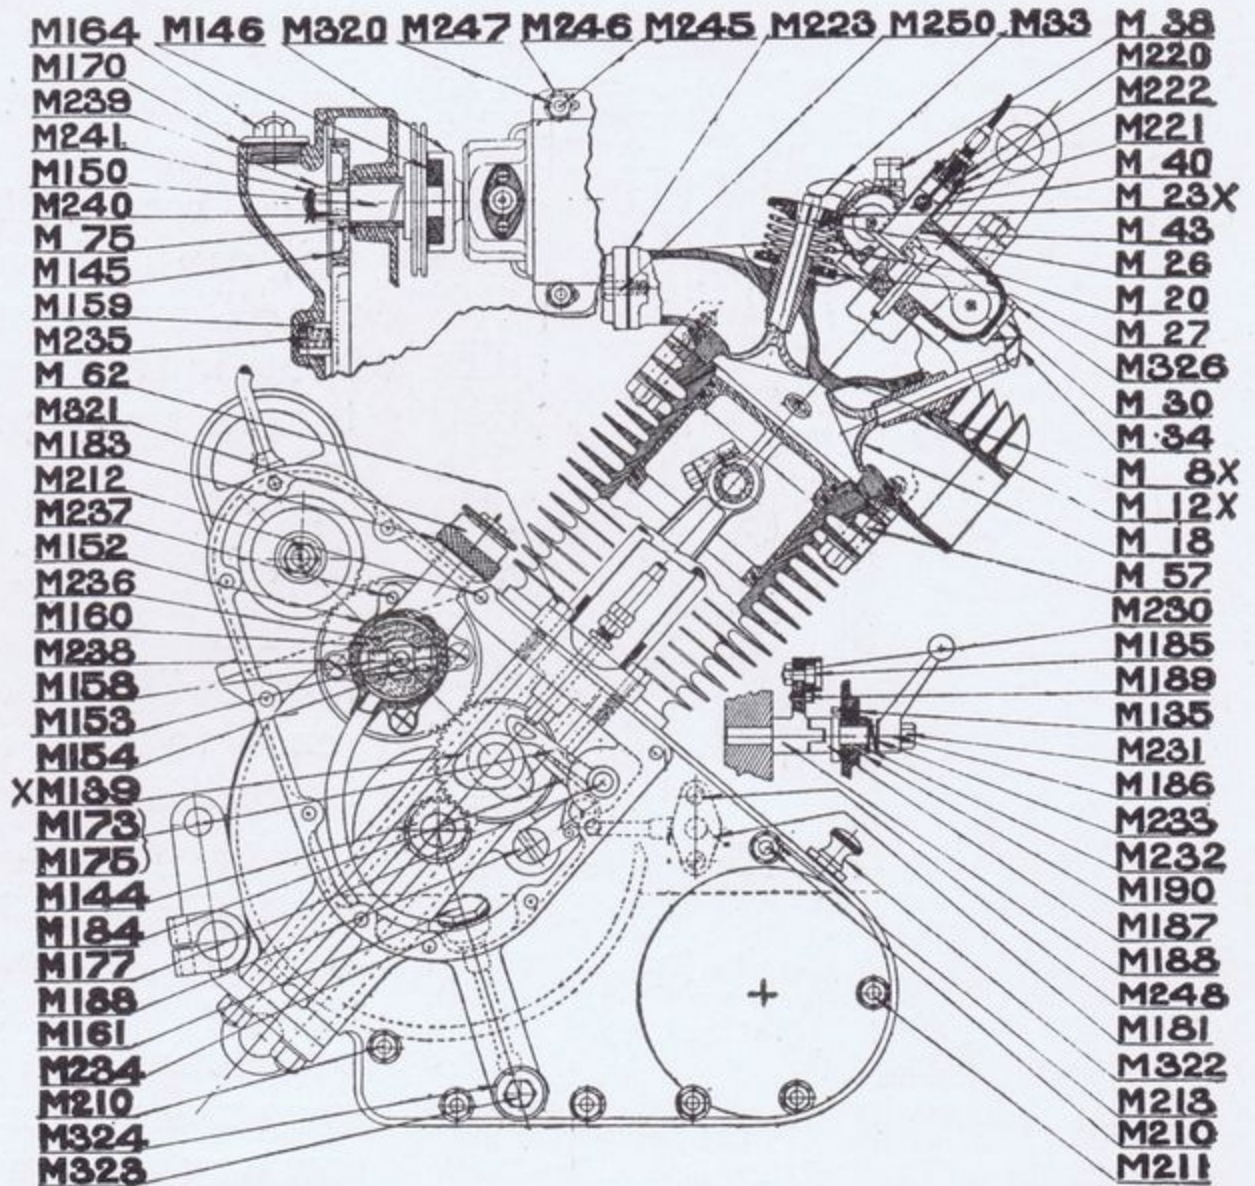
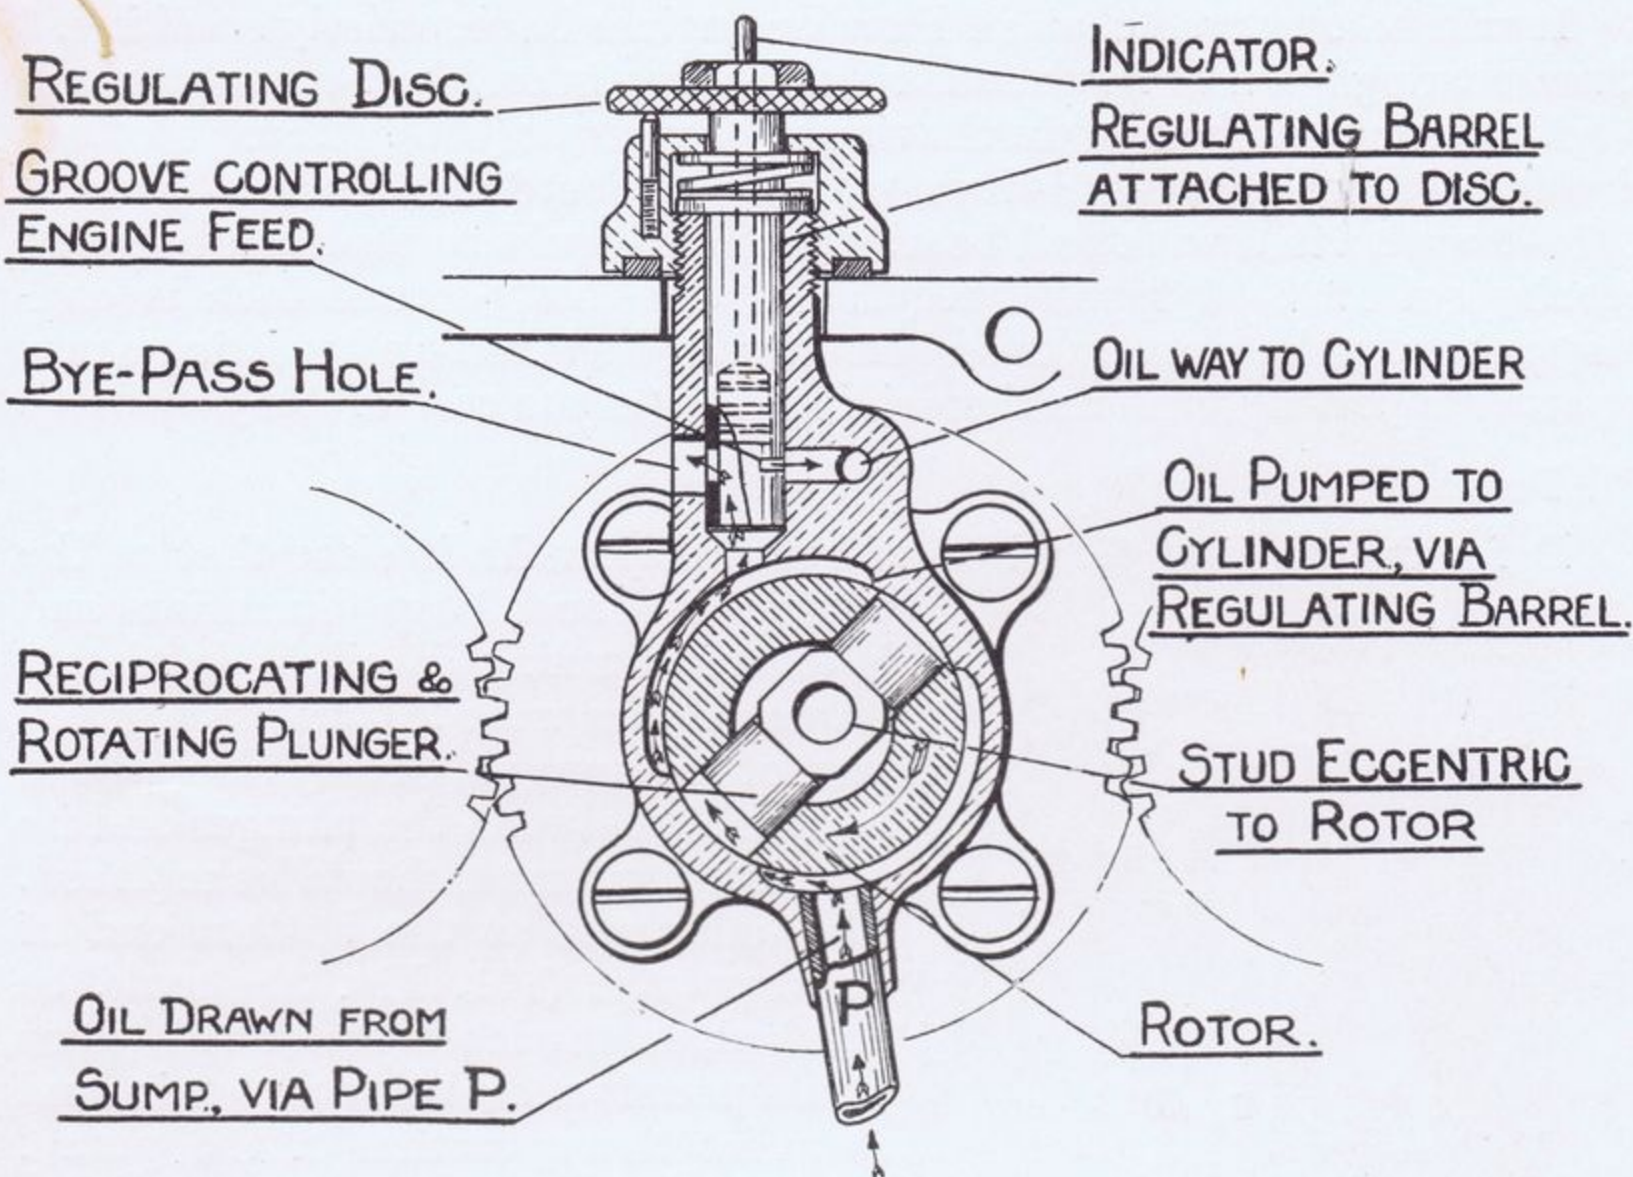

Fig. 3.—PARTS OF THE P. & M. (PANTHER) AND WHERE PLACED.
Fig. 6.—DETAILS OF THE OIL PUMP.
Turn engine until the exhaust valve is open. Pull control wire on top of rocker box upwards (see Fig. 3), and with the left hand slide downwards the small barrel (221). This will allow removal of the horse-shoe-shaped collar (222). The barrel piece will now slip upwards over the wire adjuster (220), and permit of the wire nipple being released from the internal valve lifter (40). The back brake should now be disconnected at the pedal end, after which the engine is free from all connections.
be taken in hand for cleaning and polishing. It is a wise policy to mark the piston before removing, so that it can be assembled in the same way. Distance washers on 1931 models are cast with the head (see Figs. 3 and 4).
and nine screws secure the timing-case cover, and when removing the latter, a cap and spring (159, Fig. 3) will be found in a recess close to the magneto-wheel recess. The purpose of this cap and spring is to keep the oil-pump wheel (238) pressed home in the pump housing (152) to avoid any possibility of air leak.
Remove magneto by taking off the two $\frac{1}{4}$ -inch nuts (247, Fig. 3) which hold the base plate to crankcase, and disengage driving dog (146) by pulling magneto outwards. There is no need to dismantle driving wheel in timing gear (145), as the dog coupling is marked with a centre spot for retiming. A sprocket draw tool is necessary to draw the main pinion (144) from shaft, as this is fitted on a fairly long key (229). After removing the long engine rods by pulling them through bottom engine lugs and remaining bolts, passing through crankcase, the timing side half will lift away.
Reference to Figs. 6 and 6A will probably make it clear that as the plunger is of such large dimensions and is always running *in* oil, it is almost impossible for wear to take place in any part of this pump. If any slackness is noticeable between the plunger and its housing, the former should be replaced. The union nut at the bottom end of delivery pipe (161, Fig. 3) should be checked, as any looseness at this point would permit of air being drawn in, and so affect the operation of the pump. Oil leaking from the regulator usually points to a slightly worn indicator rod or defective gland washer (183).
the guides have worn oval. The latter, as will be observed, also form the base for push-rod tubes, and to remove these the two bolts (62, Fig. 3) which secure same should be removed and the guides knocked out from the underside.
Before reassembling the timing gear examine the small tongue piece (184, Fig. 3) attached to the operating shaft (188), and replace if this shows signs of wear. The smallest amount of wear at this point will make the decompressor inoperative owing to the small lift required.
Assuming that all timing wheels have now been replaced, according to the marks, the faces of timing case and cover should be scraped perfectly clean. An even coat of Hermetite or L'Hermitical should now be applied to the cover plate, and in refitting this *do not forget the spring plunger* (159, Fig. 3) which presses against the intermediate pinion (spring in timing cover). Replace the oil filter in crankcase (323) if this is damaged at all, and after fitting magneto the complete crankcase assembly can be placed on one side, with a rag in the mouth of crankcase to prevent dirt entering.